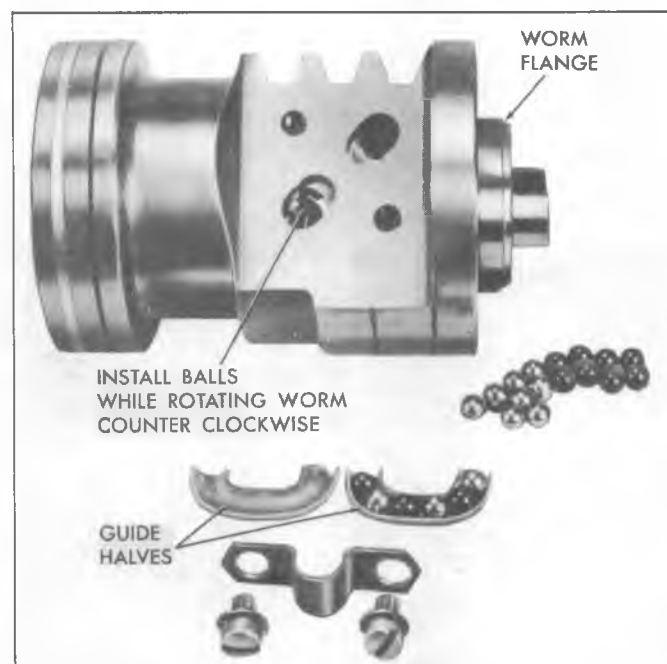

Fig. 48—Installing Balls in Rack-Piston
3. Turn the worm until the worm groove is aligned with the lower ball return guide hole (fig. 48).